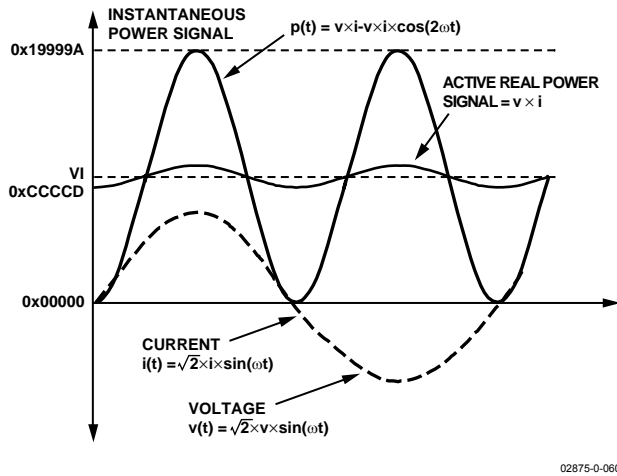

Figure 37. Active Power Calculation
Note that the active power is equal to the dc component of the instantaneous power signal  $p(t)$  in Equation 9, i.e.,  $VI$ . This is the relationship used to calculate active power in the ADE7169F16. The instantaneous power signal  $p(t)$  is generated by multiplying the current and voltage signals. The dc component of the instantaneous power signal is then extracted by LPF2 (low-pass filter) to obtain the active power information. This process is illustrated in Figure 37.
The ADE7169F16 also incorporates an active power offset register (WATTOS[15:0]). This is a signed twos complement 16-bit register that can be used to remove offsets in the active power calculation—see Figure 37. An offset could exist in the power calculation due to crosstalk between channels on the PCB or in the IC itself. The offset calibration allows the contents of the active power register to be maintained at 0 when no power is being consumed.
As mentioned in the last section, the discrete time sample period (T) for the accumulation register is 1.22  $\mu$ s (5/CLKIN). With full-scale sinusoidal signals on the analog inputs and the WGAIN register set to 0x000, the average word value from each LPF2 is 0xCCCCD—see Figure 37. The maximum positive value that can be stored in the internal 49-bit register is  $2^{48}$  or 0xFFFF,FFFF,FFFF before it overflows. The integration time under these conditions with WDIV = 0 is calculated as follows: